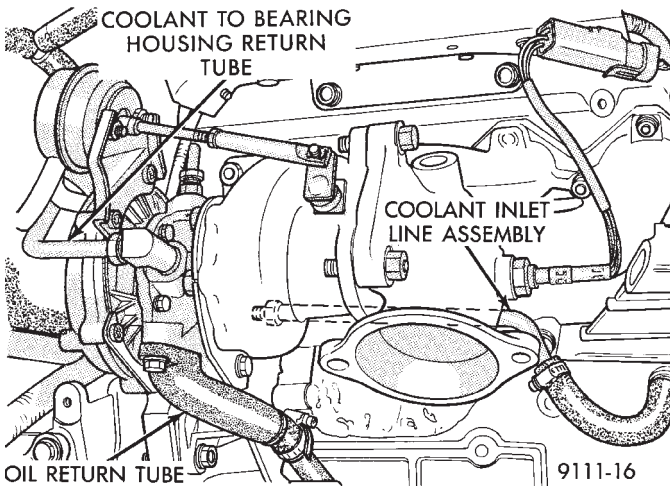

Fig. 11 Coolant Tube Routing
(4) Disconnect O₂ sensor lead wire and vacuum lines.
(5) Separate coolant return line from water box and turbocharger housing (Fig. 11). Remove return line from turbocharger.
(13) Disconnect articulated exhaust pipe joint from turbocharger housing.
(14) Remove turbocharger coolant inlet line assembly from engine (Fig. 11).
(15) Lift turbocharger off manifold mounting studs and lower assembly down and out of vehicle.